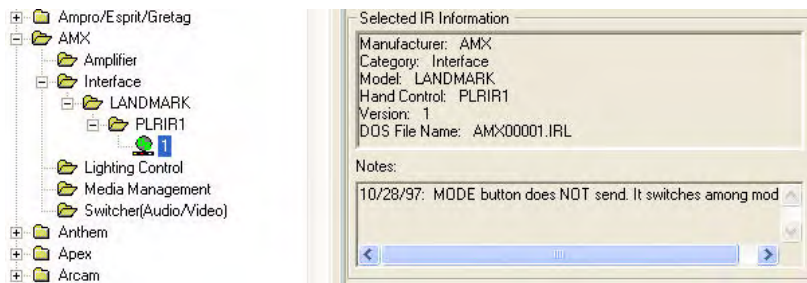

FIG. 83 Selected IR Information pane
2. From the directory tree, click on the AMX folder to open it. Select the appropriate IR file, and the *Selected IR Information* pane will display the available information on the file (FIG. 83).